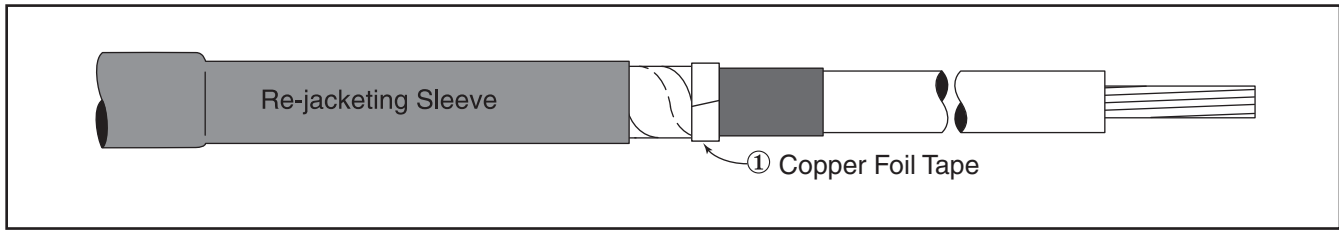

Figure 10
5.2 Secure cable copper tape shield ends with copper foil tape (*Figure 10*).